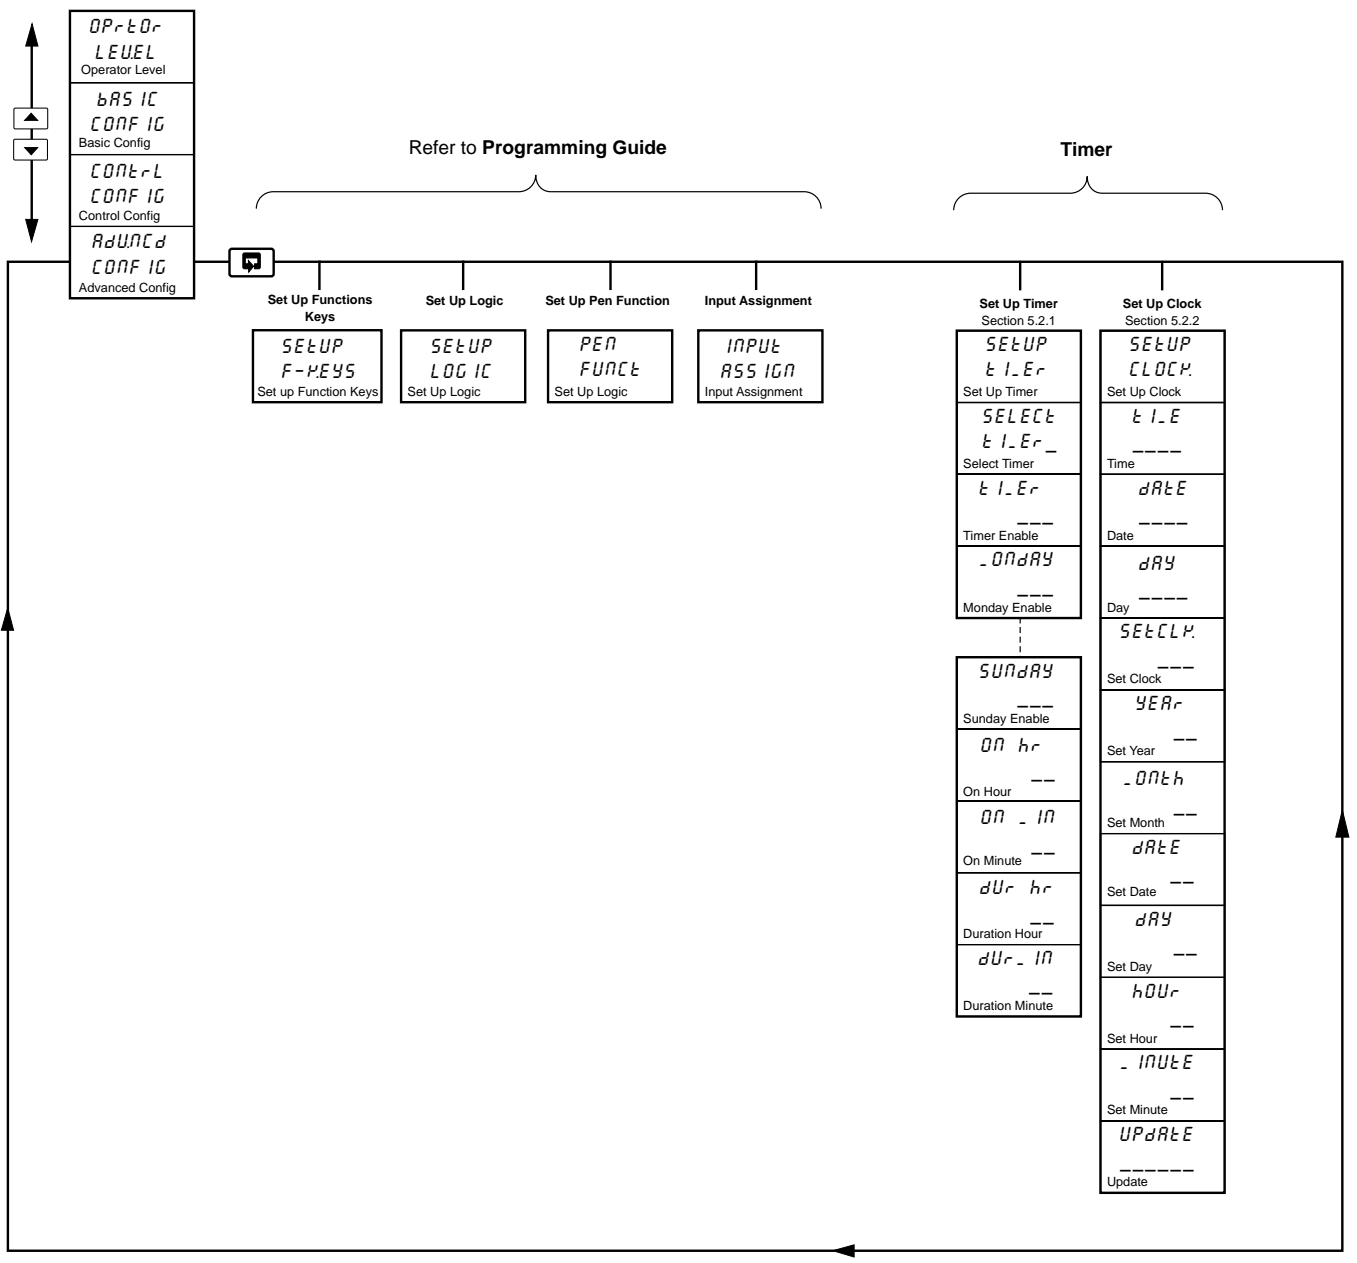

Fig. 5.1 Advanced Configuration Level
5.1 Advanced Configuration Level – Fig. 5.1